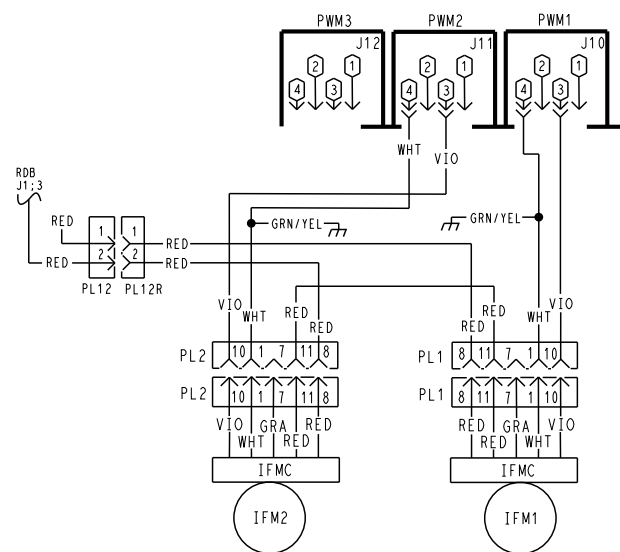

Fig. 11 — Supply Fan Control Wiring Diagram
6. Verify the J10 plug at the SystemVu board is wired per Fig. 11, connected tight, and wires are secured in the plug